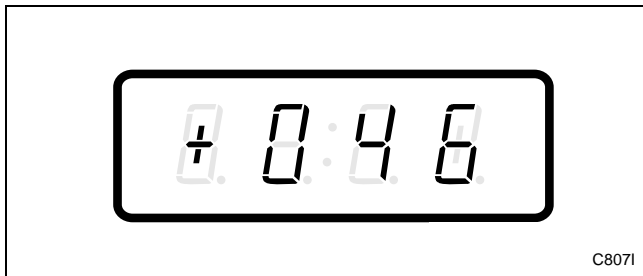

Figure 55
3. Press the DELICATES (+) or the COLD (-) keypad to scroll through the programmable options until “+046” appears in the VFD. Refer to *Figure 55*.